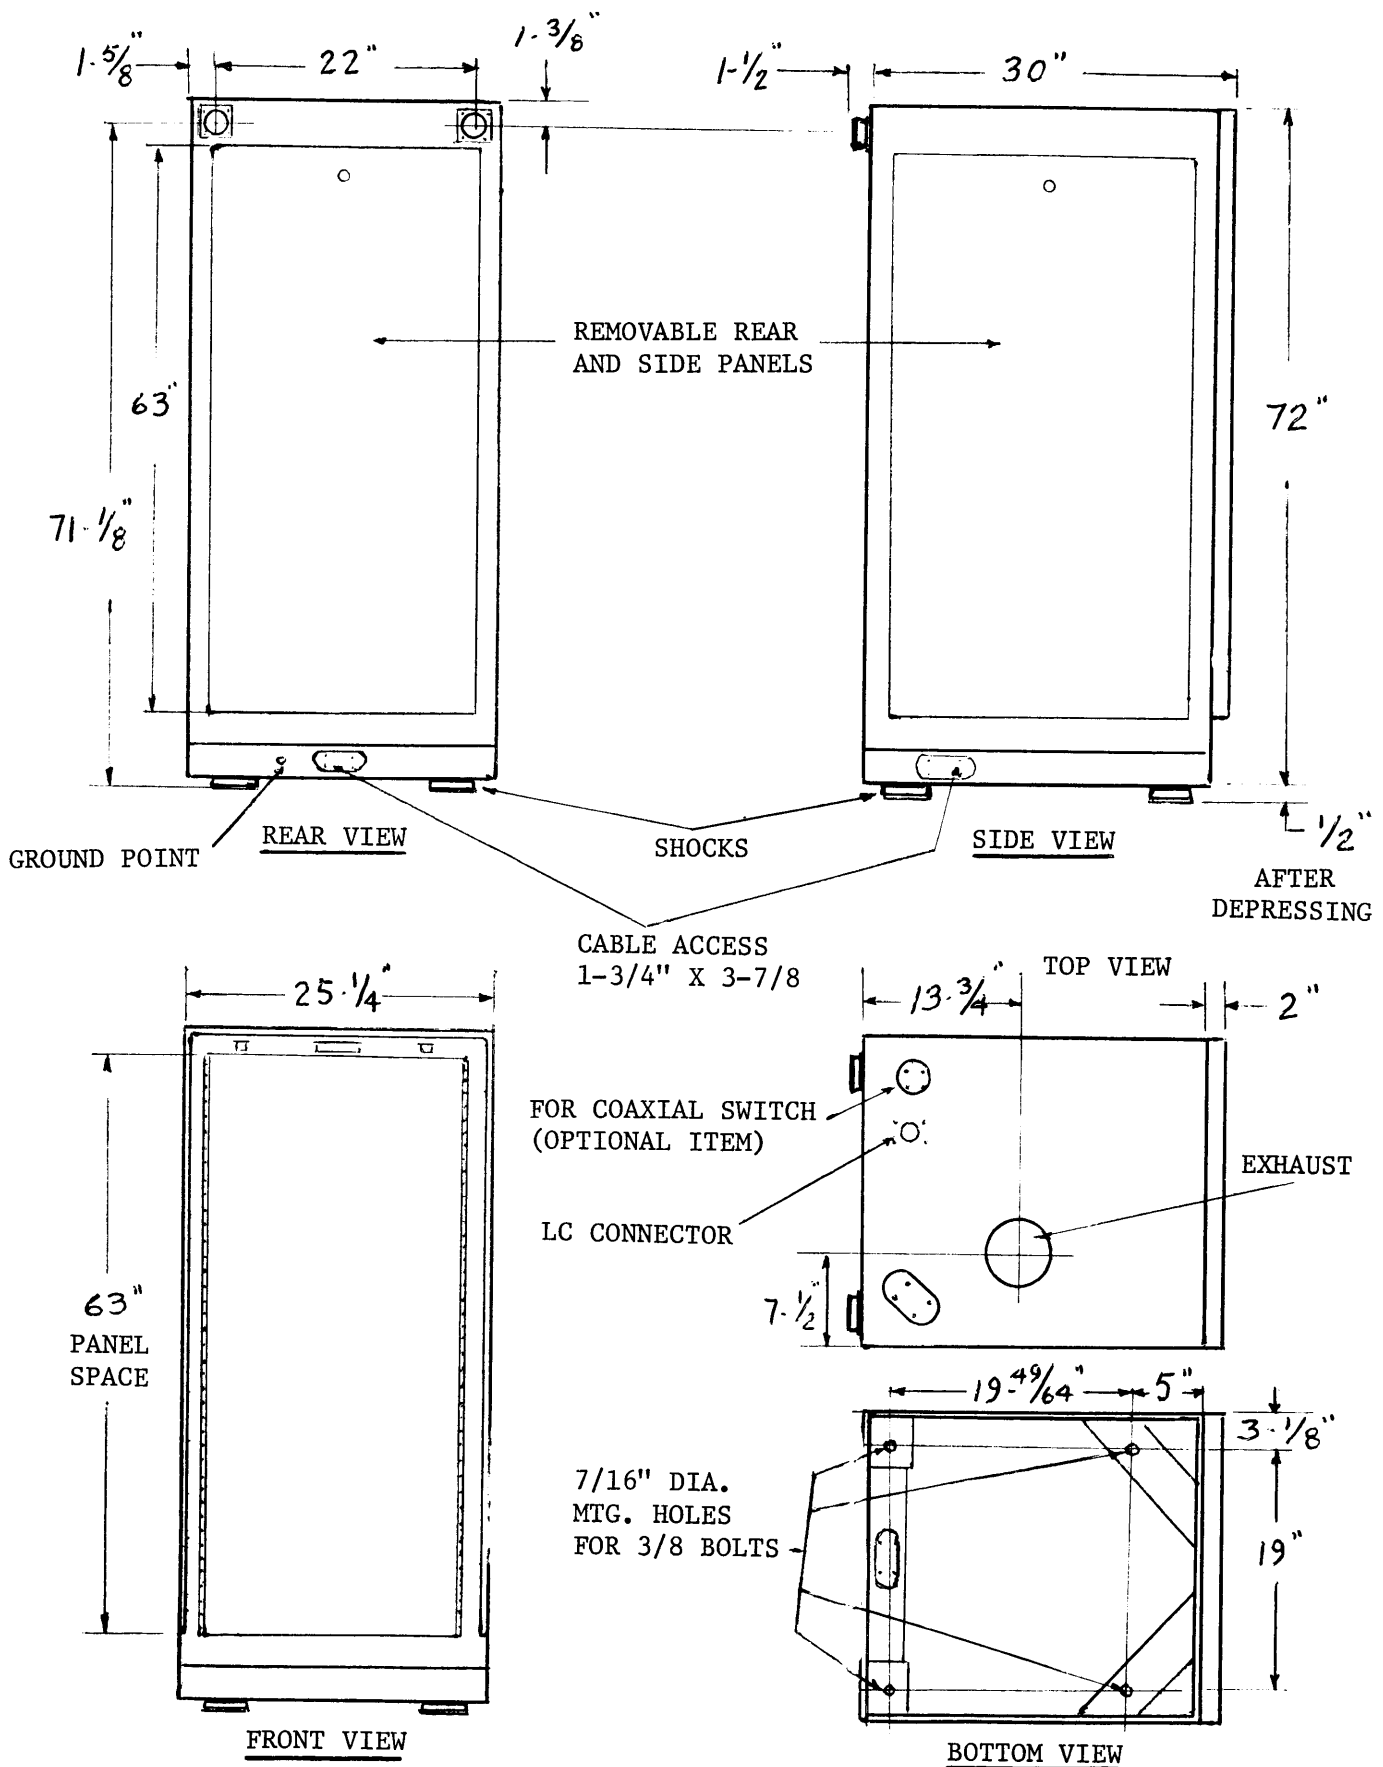

Figure 2-1. Outline Dimensional Diagram
j. CABINET, ELECTRICAL EQUIPMENT, RAK-110-2JB. - is a shock-mounted equipment cabinet providing 63-inches of modular unit panel space, with removable rear and side panels. The RAK measures 72-inches high by 30-inches deep by 25½-inches wide. Shock mounts are mounted at the four bottom corners of the RAK, with two shock mounts also located at the two top-rear corners. See figure 2-1 for dimensional outline and mounting data.
- c. Remove all packaging material from rack and position rack in accordance with pre-installation planning. (See figure 2-1).